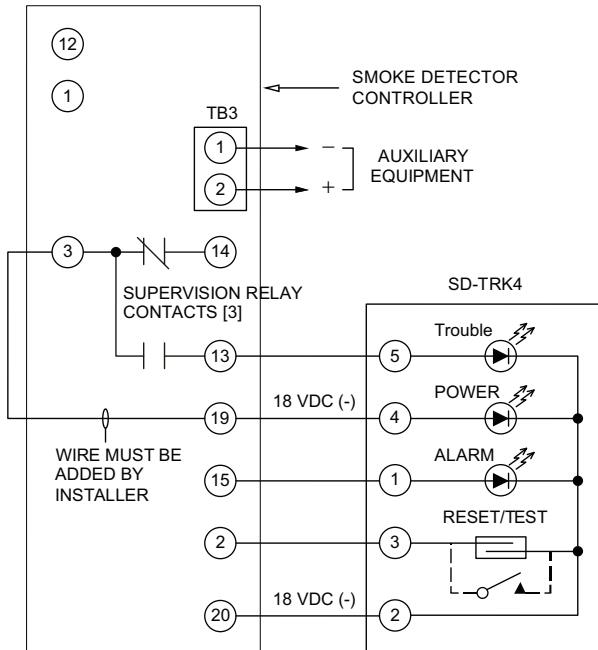

Fig. 46 — Remote Test/Reset Station Connections
The test/reset station dirty sensor test checks the test/reset station's ability to initiate a sensor dirty test and indicate the results. It must be wired to the controller as shown in Fig. 46 and configured to operate the controller's supervision relay. For more information, see "Dirty Sensor Test" on page 24.
1. Verify that the remote test/station is wired as shown in Fig. 46. Repair or replace loose or missing wiring.